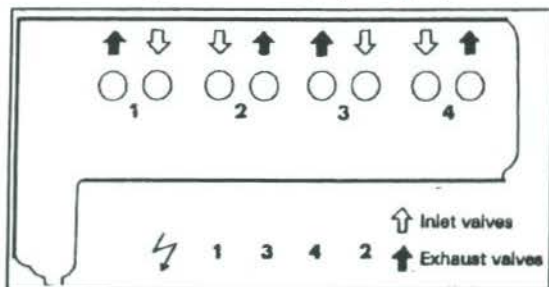

Fig. 9.16 – The position of inlet and exhaust valves.
- Rotate the engine until the next set of valves are fully closed and check and/or adjust as described above, following the diagram shown in Fig. 9.16.